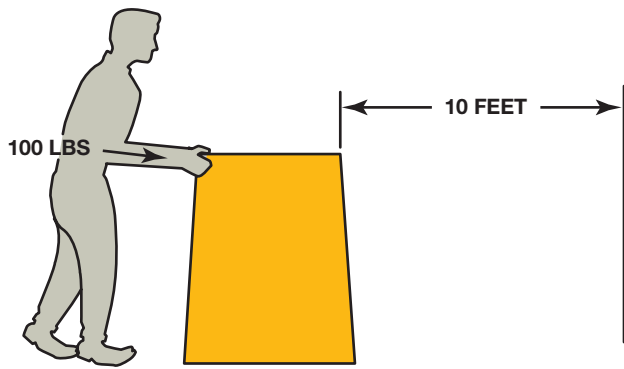

FIGURE 1-4 Work is calculated by multiplying force times distance. If you push 100 pounds 10 feet, you have done 1,000 foot-pounds of work.
- Work is done when a certain amount of mass (weight) is moved a certain distance by a force. Whether the object is moved in 10 seconds or 10 minutes does not make a difference in the amount of work accomplished, but it does affect the amount of power needed. ● **SEE FIGURE 1-4.**